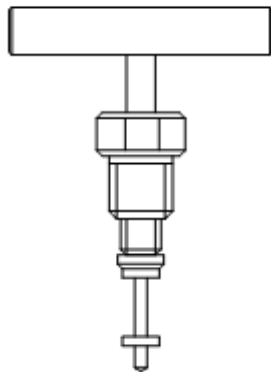
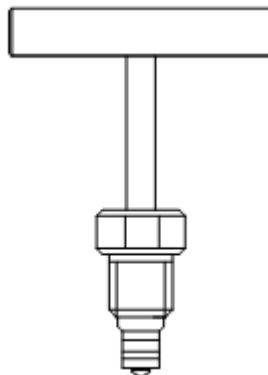

Figure 20
Figure 22
5. Rotate the handle counterclockwise until the valve is completely open (see Figure 20).
NOTE: *There are two types of valve assembly designs – one with the two followers and the packing ring (as illustrated in the accompanying tag)(Figures 22 & 23); and another with just one follower (Figures 20 & 21). The valve assembly with just one follower has a narrower stem, which can be more easily broken during disassembly. Therefore, it is important that you open the valve completely before unscrewing the large nut, and pulling the handle out straight after unscrewing the large nut. **THE FLOW VALVE WARRANTY IS VOIDED IF THE STEM IS BROKEN DURING DISASSEMBLY.***